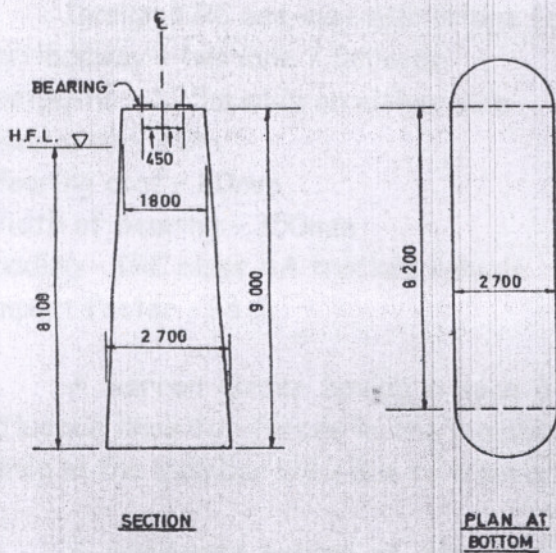

Figure Q9
9. Determine the stresses at the base of the pier as shown in the figure Q9 with data given as follows.